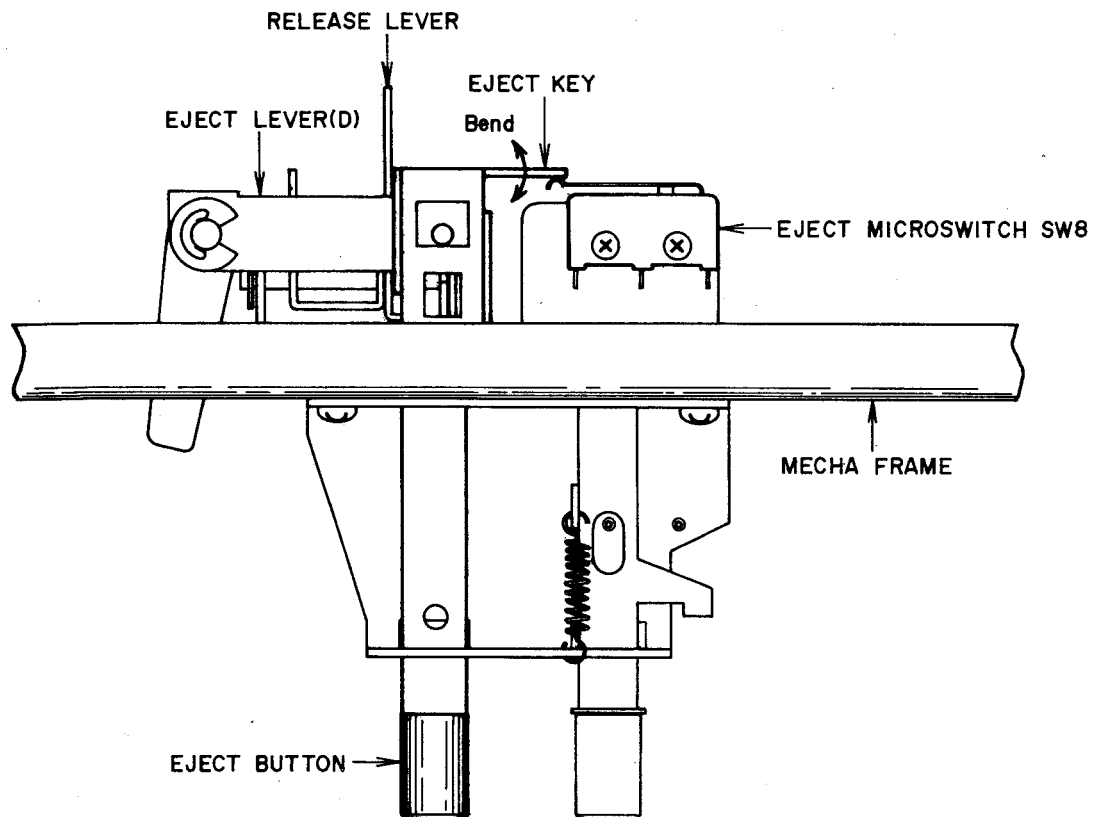

Fig. 9
6) Adjustment of Eject Micro Switch Actuating Position (Refer to Fig. 9)
Adjust by bending Eject Key so that when the Eject Key is depressed, Eject Micro Switch (SW8) shown in fig. 9 is perfectly actuated.